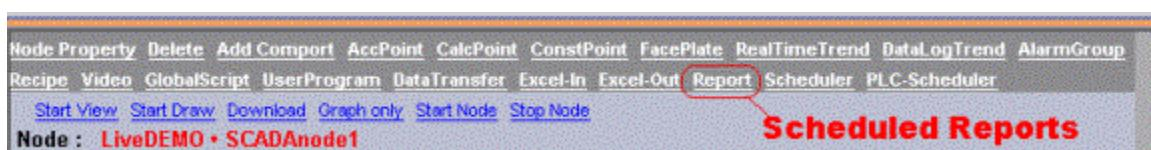

Figure 12-9 Report Configuration Link - SCADA Node MAIN page
3. Select **Report** from the header on the SCADA Node MAIN page (Figure 12-9).